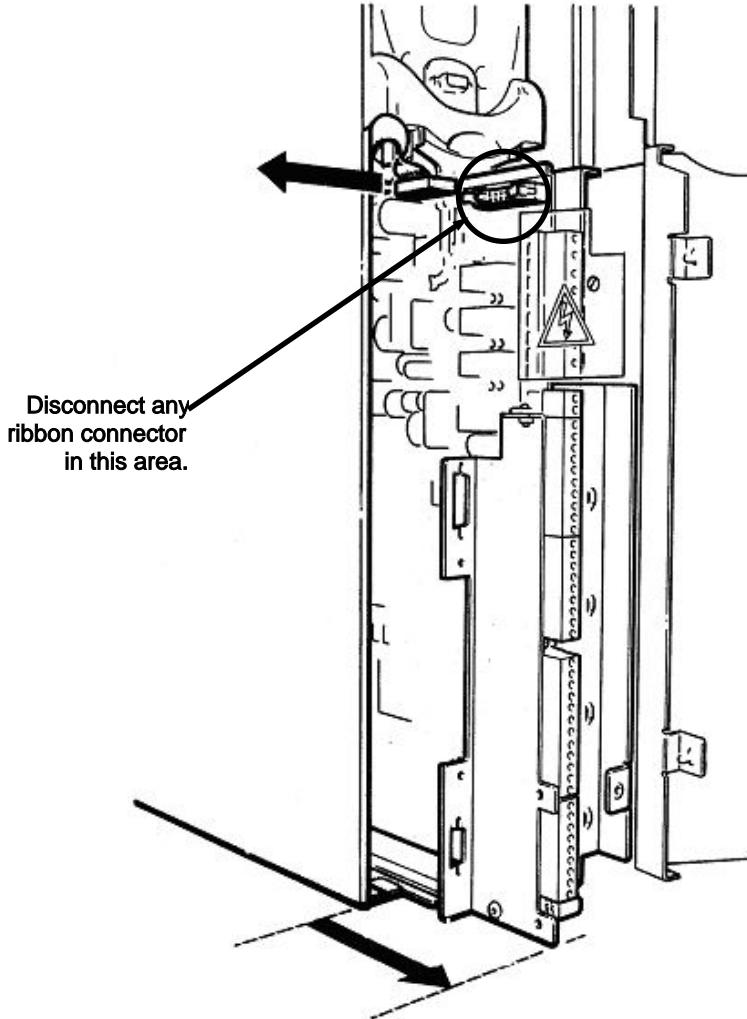

Figure 3-2. – Drive Module: Removing the CDC Cassette
- e) Slide the CDC cassette completely forward out of the drive, disconnecting any ribbon connectors located at the top of the board, (see Figure 3-2), and noting their positions for ease of re-connecting.